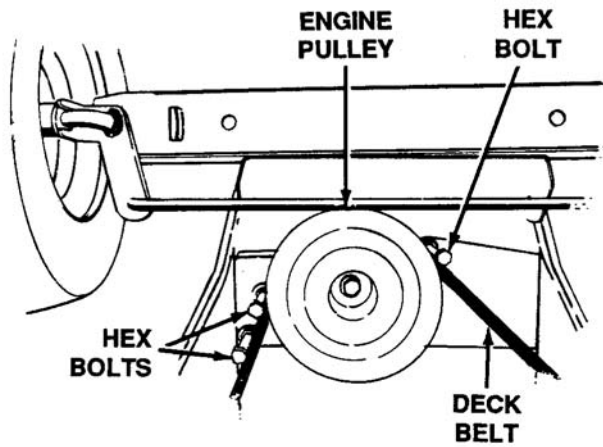

Figure 7-4. Location of Hex Bolts
- b. Remove the three hex bolts (belt keepers) from the engine pulley belt guard. See Figure 7-4.